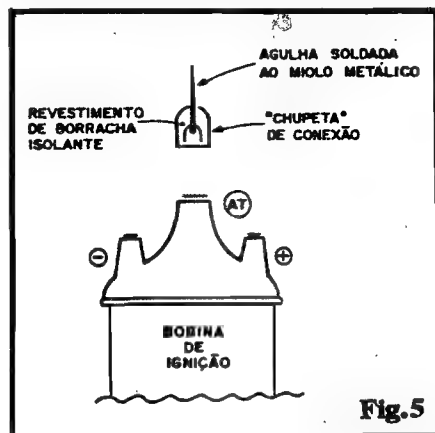

Fig. 5
- **FIG. 5 - DETALHE DA "AGULHA" DO CENTELHADOR (TERMINAL DE ALTA-**